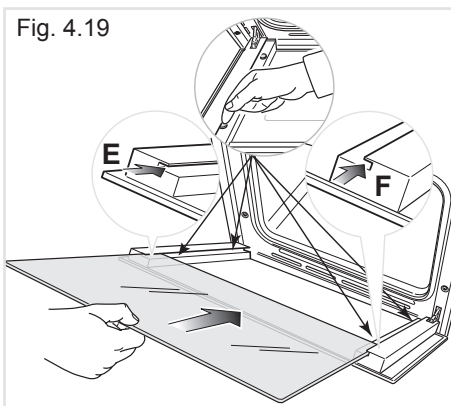
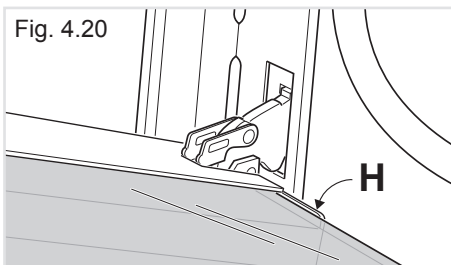

Fig. 4.19
Fig. 4.20
IMPORTANT: It is advisable, while refitting the glass, to keep pressed in position the four rubber pads “D”, by a finger, to avoid breakage or slippage of the rubber pads themselves (fig. 4.19).
- Insert the pane in the left “E” and right “F” slide guides (fig. 4.19), and gently slide it to the retainers “H” (fig. 4.20).